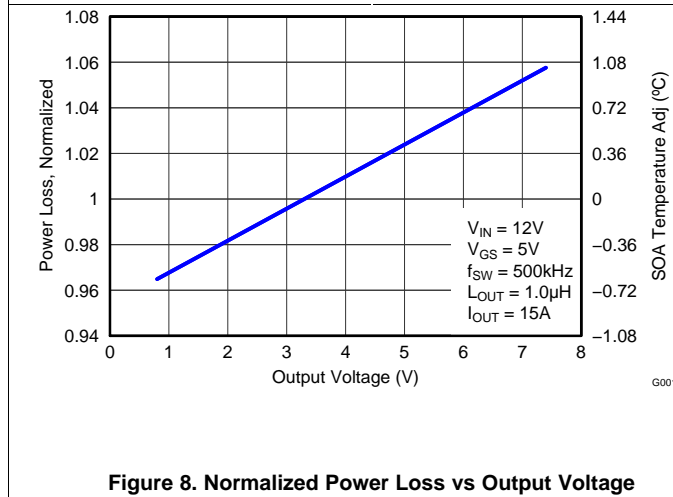

Figure 8. Normalized Power Loss vs Output Voltage
- Normalized Power Loss for output voltage \approx 0.96 (Figure 8)
- SOA adjustment for output voltage \approx - 0.2°C (Figure 8)